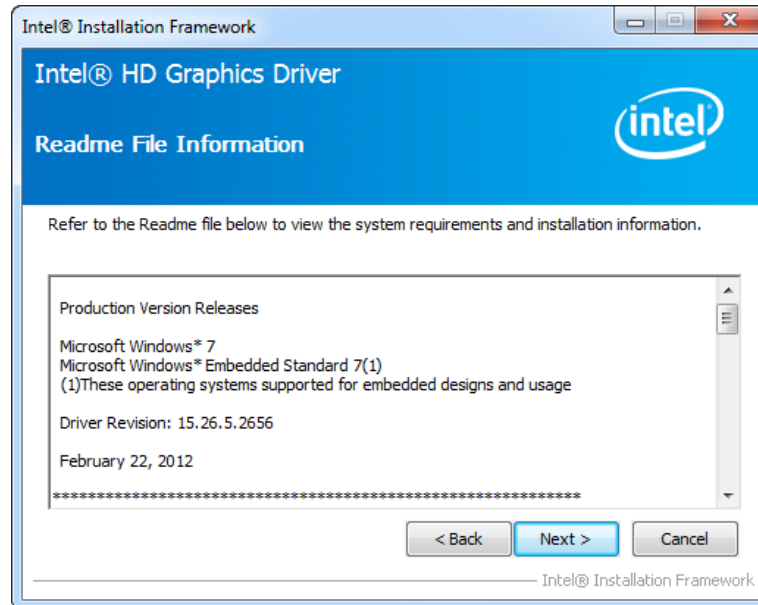

Figure 8-12: Graphics Driver Read Me File
Step 12: The **Read Me** file in **Figure 8-12** appears.